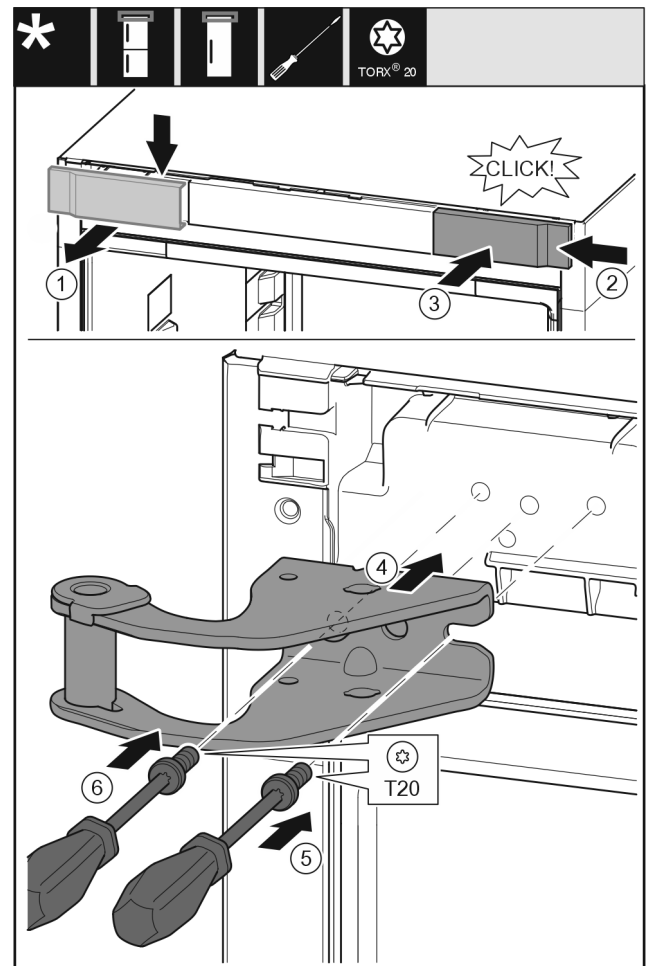

Fig. 12
- ▶ Take off the cover to the front from above. *Fig. 12 (1)*
- ▶ Rotate the cover 180° and clip onto the other side from the right. *Fig. 12 (2)*
- ▶ Latch the cover into place. *Fig. 12 (3)*
- ▶ Position the upper bearing bracket. *Fig. 12 (4)*
- ▶ Insert the screw with a T20 screwdriver and tighten it. *Fig. 12 (5)*
- ▶ Insert the screw with a T20 screwdriver and tighten it. *Fig. 12 (6)*